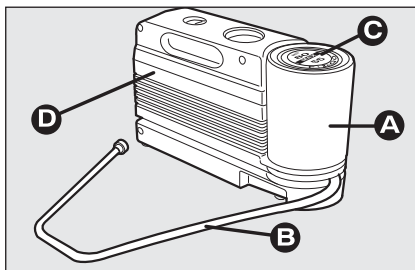

fig. 7
The kit **fig. 7** includes:
- ☐ compressor **D-fig. 7** including gauge and connections;